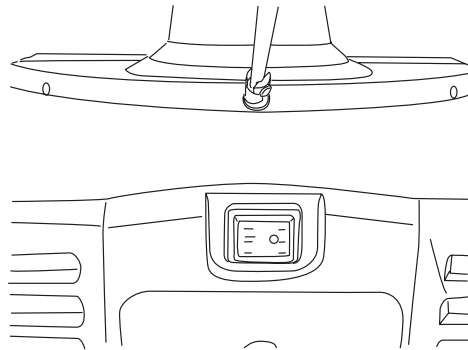

Figure 17
4. On SJ621, the halogen light could be used to lighten the forward road in the dark by turning on the switch on the backside of snow thrower (Fig. 17).